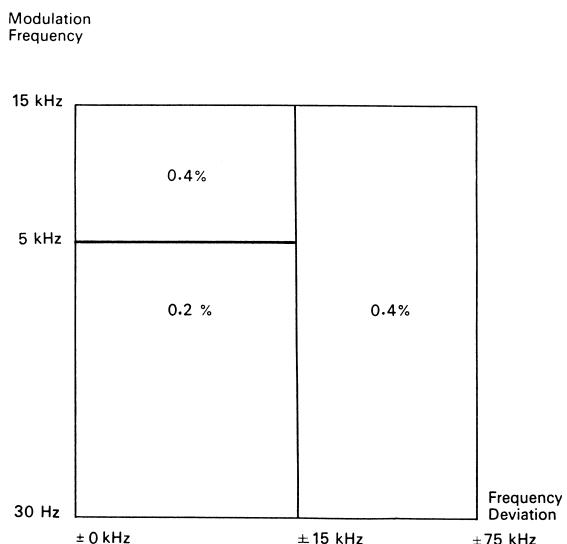

Fig. E4. Distortion for frequency deviation measurements.
14) Read the modulation deviation. Check whether the reading is the same for both peaks of modulation: a difference indicates distortion of the modulation envelope. See Fig. E4, and refer to SECTION B - SPECIFICATIONS under "FM MODULATION - Distortion".